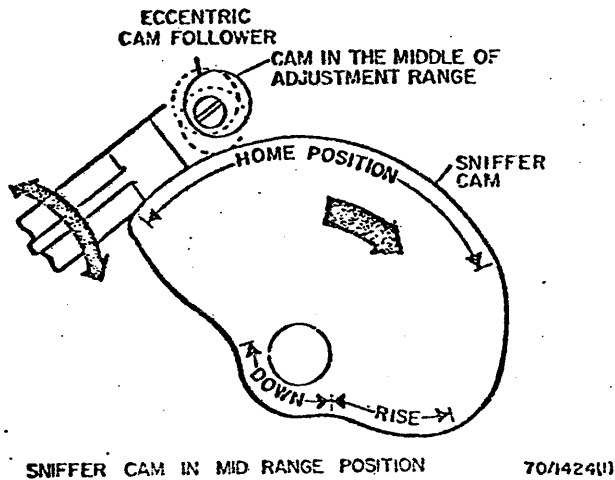

Fig. 3-62. Sniffer Cam in Mid-Range Position
3. Place the eccentric cam follower in the middle of the adjustment range (Fig. 3-62).